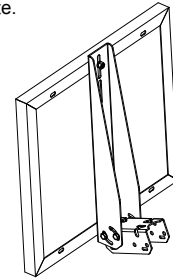

figure 1
**Step1.** Assemble the components and parts together according to **figure 1**. We suggest you lubricate all nuts and bolts to facilitate easy removal at a later date.